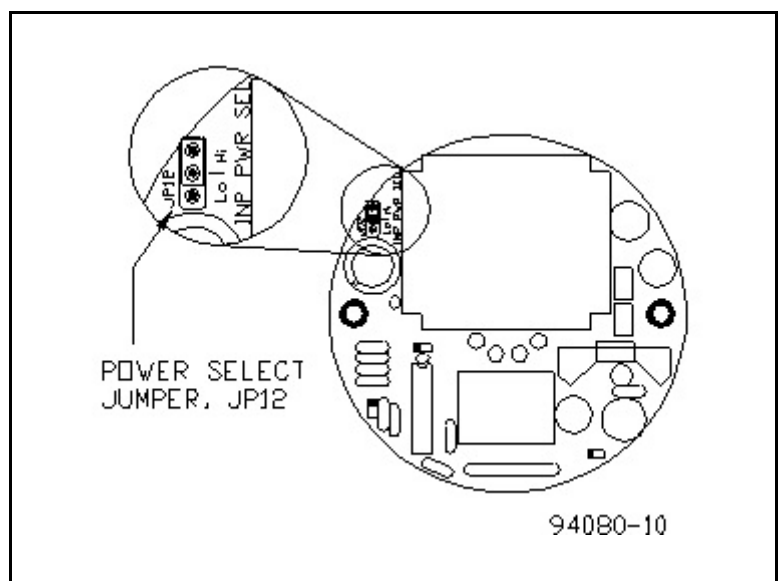

Figure 2. Input Power Selection Jumper Location
1. Power — The input power requirement is listed on the tag on the electronics enclosure; make sure the input power source is compatible. Available input power configurations are 24 Vdc, 24 Vac, 115 Vac, or 230 Vac. The Vac power is ½A, 50-60 Hz, single phase. The power configuration is pre-set at the factory, but may be changed in the field (except for 115 to 230 Vac conversions). To select either 24 Vac or high voltage (115 or 230 Vac), ensure that power has been disconnected. Then, remove the electronics module by removing the modular sensor interface connector and then by pulling the handle on the top printed wiring board (PWB). Using **Figure 2**, locate the power select jumper on the lower PWB and simply move the power select jumper to either the “Lo” (24 Vdc or 24 Vac) or “Hi” (115 Vac or 230 Vac) position. Do not apply power until the power select jumper position is visually verified.